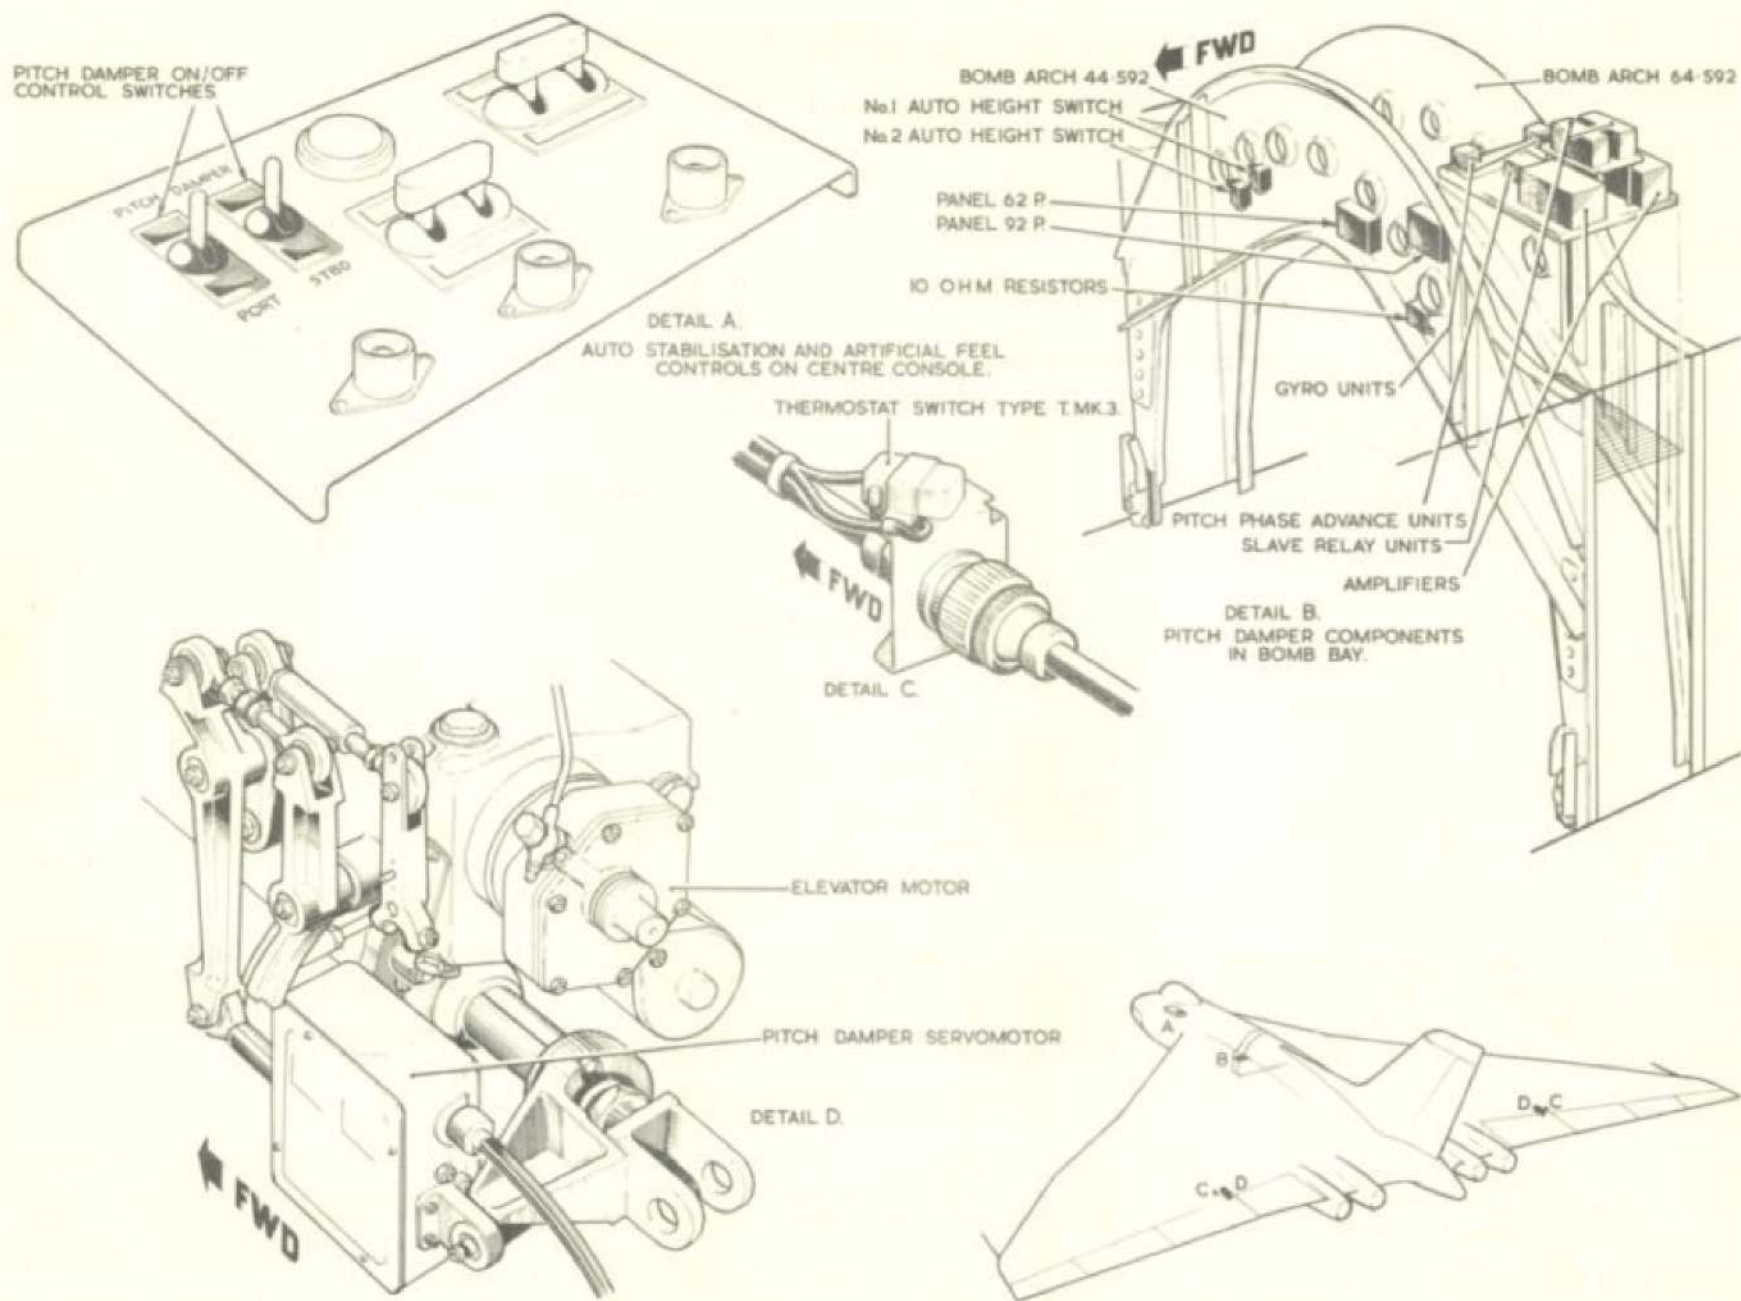

Fig. 1 Component location
4. These two switches, labelled PITCH DAMPER-PORT-STBD, are single-pole ON-OFF switches, Ref.No.5CW/6460. Each switch controls, by an associated relay, the d.c. supply to its associated pitch amplifier and at the same time provides a supply to the servo heater circuit. The switches are mounted on the retractable centre console, as shown in fig.1.
5. The two auto height switches are mounted on the forward face of bomb arch 44. Each switch is connected to the starboard pitot-static system and contains an aneroid capsule and relay. These items control, indirectly, a pair of relay contacts in circuit with the d.c. supply to their associated pitch amplifier. The switches thus prevent operation of the pitch stabilizer at altitudes below 20,000 ft. The switches are shown in fig.1 and fully described in A.P.1469S, sect.4, Chap.1.
6. The supply to the heater element of each servo unit, after leaving the control switch, is fed via a thermostat, Type 3 Mk.2. The thermostats, which are set to operate at temperatures of 0 deg.C and below, are mounted adjacent to their associated servo unit, as shown in fig.1.
7. This panel is introduced into the bomb-bay to house the additional relays introduced by Mod.613. The panel contains two relays, 707 and 708, which form part of the starboard pitch stabilizer circuit. The panel is shown in fig.1.